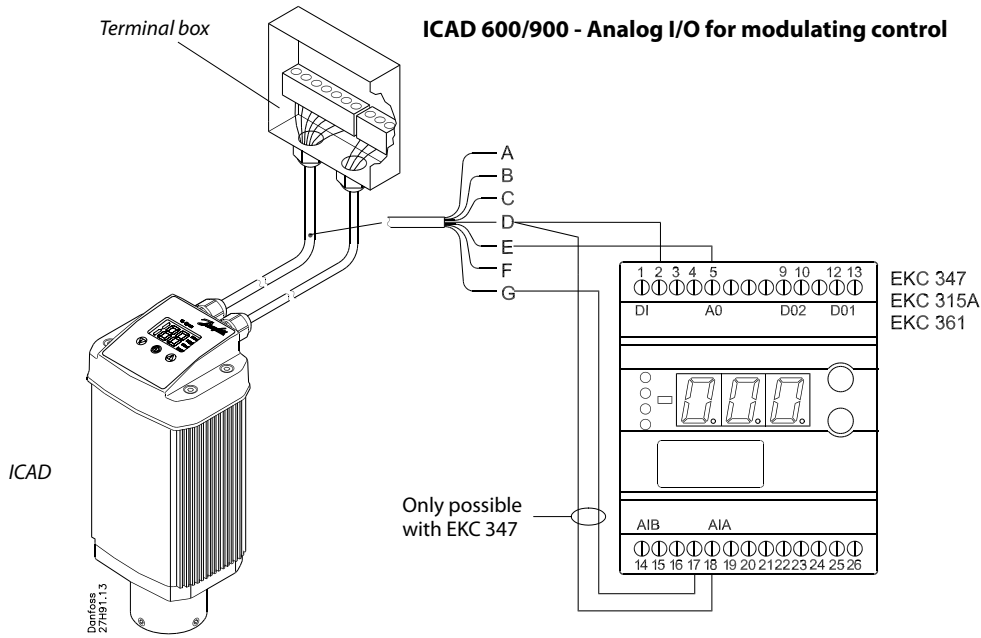

Fig. 7
7 x 0.25 mm² (7 x ~24 AWG) (fig. 7)
- *Analog operation - 7 wired cable (A-G)* Modulation control. ICM valve to be controlled from Danfoss electronics, type EKC (fig. 7), or third party electronics (like e.g. PLC).
- Connect analog input signals. Current (mA) or Voltage (V). See **Parameter list** for configuration of analog input signals.
- Pink (+) and Yellow (GND) are used for Voltage (V) input.